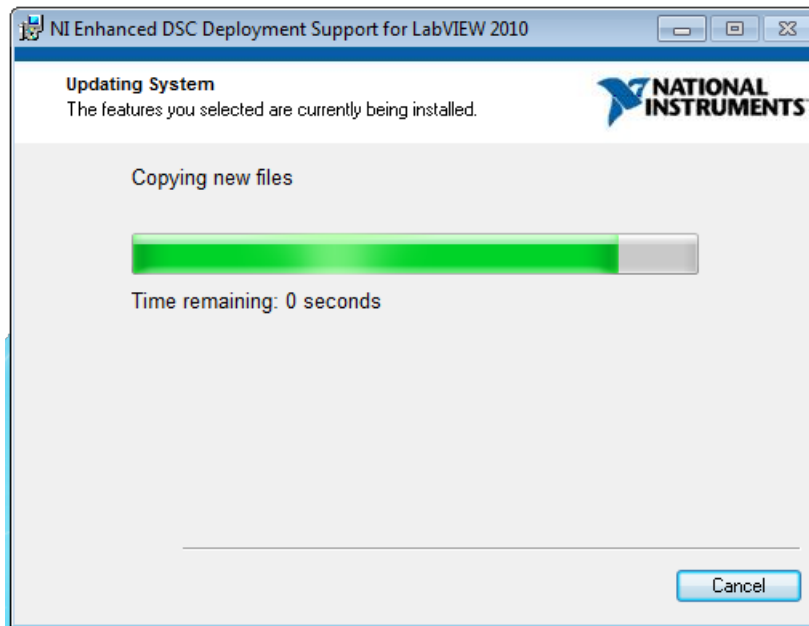

Figure 32. LabVIEW RTE Installation in Progress
6. The installer begins self-extraction and proceeds with the installation as shown in Figure 32.